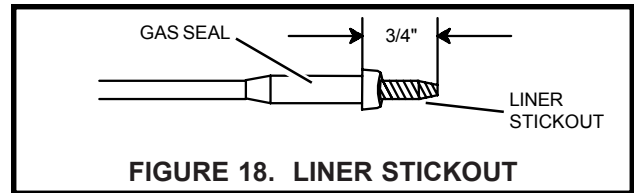

FIGURE 18. LINER STICKOUT
3. Adjust the liner stickout length to 3/4" as shown in FIG. 18.